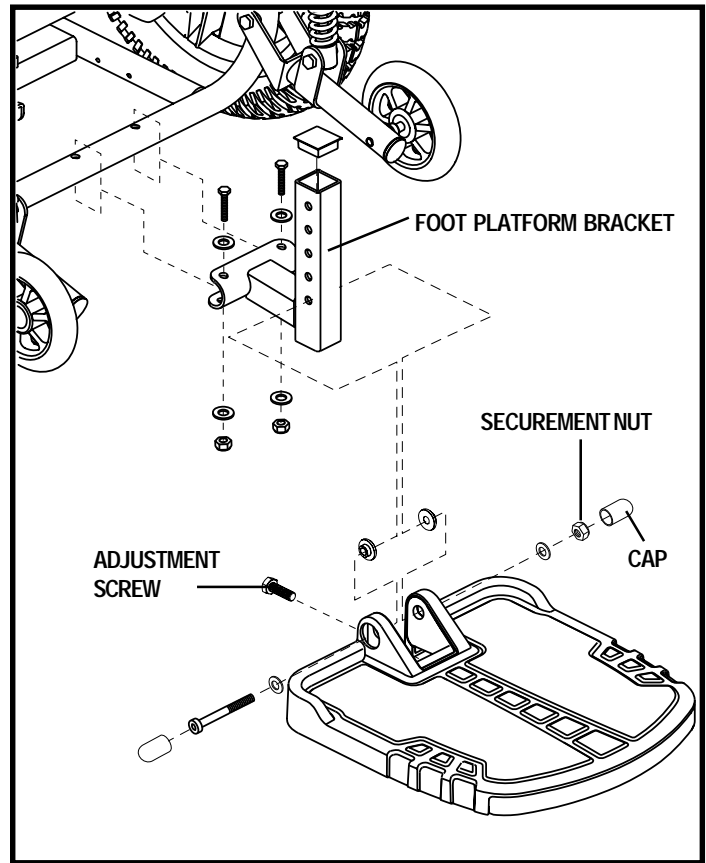

Figure 14. Foot Platform Adjustment
1. Remove the hardware from the foot platform bracket as shown in figure 14.
You can adjust the angle of the foot platform with a wrench. See figure 14.